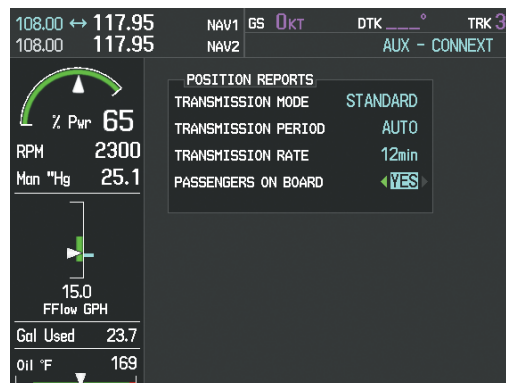

Figure 8-125 Set Transmission Rate
- Turn the small **FMS** Knob to highlight the first digit, as shown in Figure 8-125.